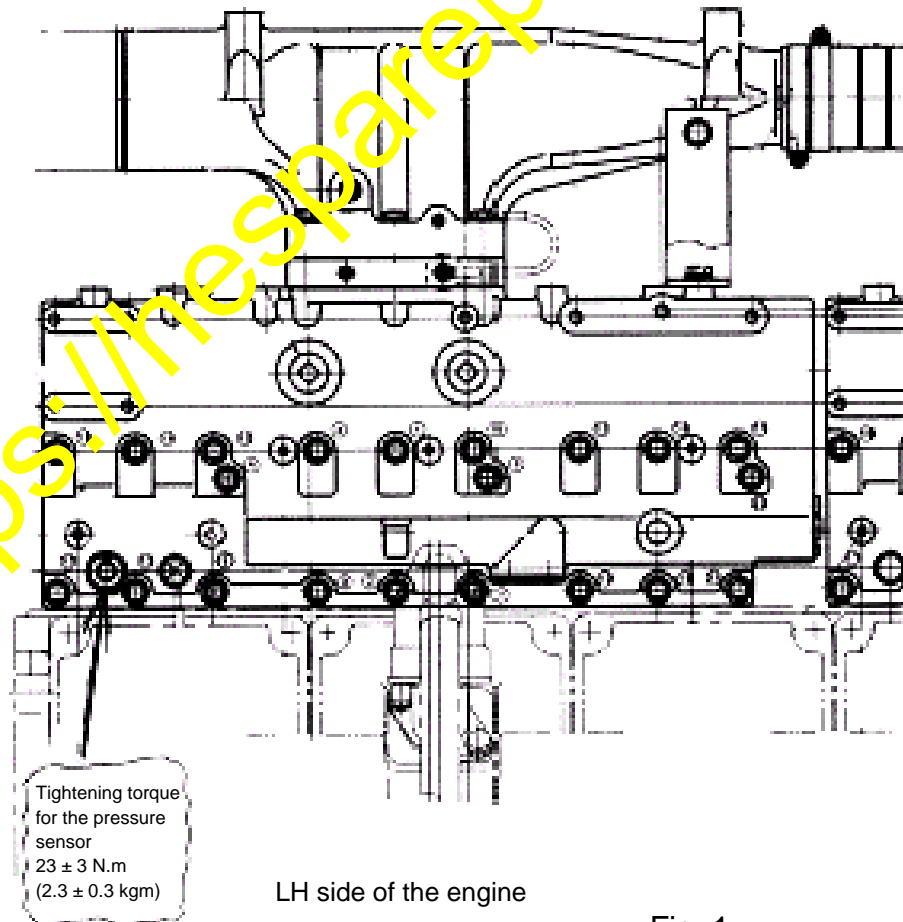

Fig. 1
(1) Park the machine on a flat place, turn on the parking brake and turn OFF the starting switch. After that, apply chocks to the tires.
2) Replacement of the boost pressure sensor (Refer to Fig. 1)